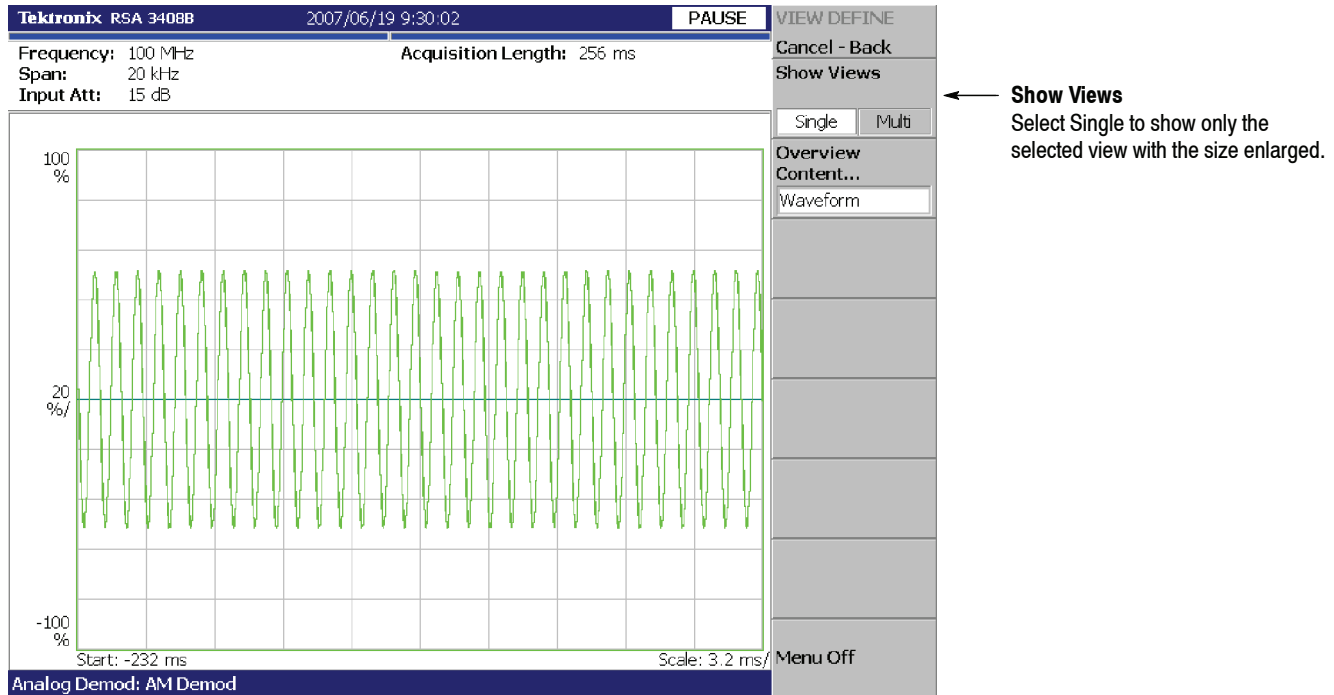

Figure 2-55: Single view display
3. Press the **Define** key, and then the **Show Views** side key, shown in Figure 2-55, to select **Single**.